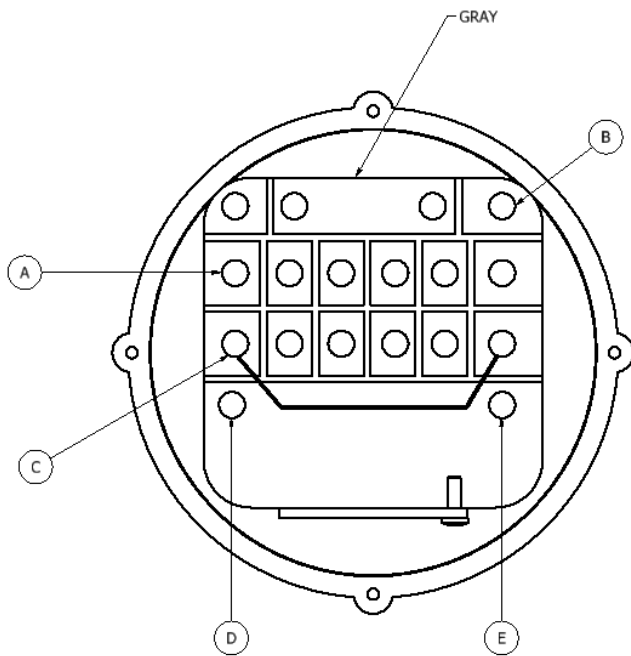

FIGURE 1:
3. On the existing gauge, label wires as shown in Figure 1 using identifiers of A, B,C,D and E.